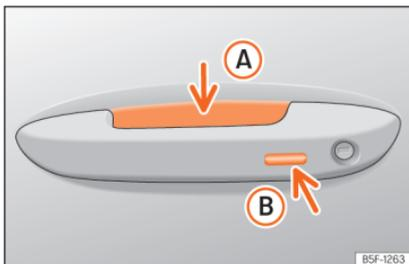

Fig. 88 Door handle: sensor surfaces
»» Fig. 88
- Grip one of the front door handles. When you do this, you touch the sensor surface »» Fig. 88 (A) (arrow) of the handle and the vehicle unlocks.
- Touch (once) the locking sensor surface »» Fig. 88 (B) (arrow) on one of the front door handles. The door that is used must be closed.
- Touch (once) the sensor surface »» Fig. 88 (B) (arrow) on one of the front door handles. The vehicle locks with the "Safe" security system »» page 104. The door that is used must be closed.
- Touch (twice) the sensor surface »» Fig. 88 (B) (arrow) of one of the front door handles to lock the vehicle without activating the "Safelock" security system »» page 104.
»» **Fig. 88**  within the following 5 seconds. Do not grasp the door handle; otherwise the vehicle will not unlock. Deactivation is also possible if the vehicle is locked through the driver's door lock.
To close all the electric windows and the sunroof using the **comfort function**, keep a finger for a few seconds on the locking sensor surface »» **Fig. 88**  (arrow) of the door handle until the windows and roof have closed.
The sensor surfaces on the door handles could engage if hit with a water jet or high pressure steam if there is a valid vehicle key in the proximity. If at least one of the electric windows is open and the sensor surface »» **Fig. 88  (arrow) on one of the handles is activated continuously, all windows will close.**